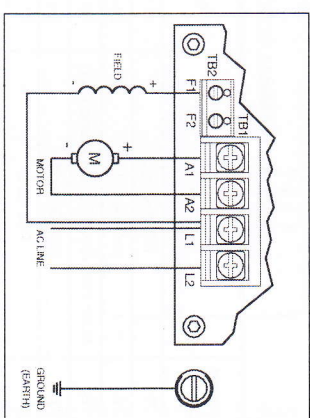

FIGURE 5 – HALF VOLTAGE FIELD
E. Half Voltage Field Connection (Shunt Wound Motors Only) – Wire the motor field leads to F1 (+) and L1 (-) terminals of TB2, as shown in Figure 5 & Table 4.